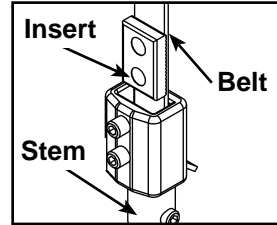
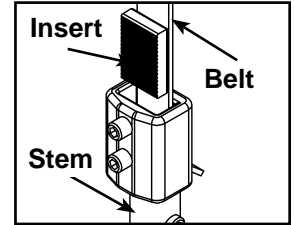

Figure 9A
Figure 9B
- D. Verify belt and insert are installed properly, as shown in Figure 9A. **NOTE:** Do not install the insert backwards as shown in Figure 9B.